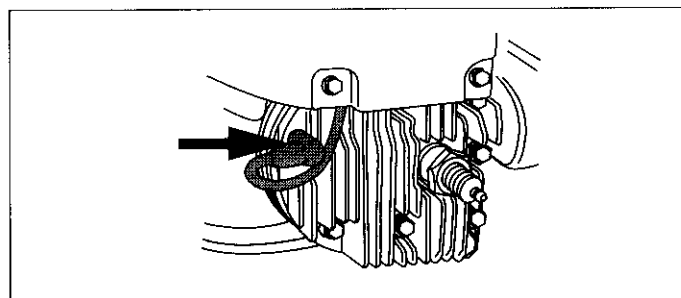

Figure 32. Typical Spark Plug Grounding Post
- Attach the spark plug wire to the grounding post if provided. See Figure 32.
7. Carefully disconnect spark plug wire from grounding post, if provided. See Figure 32.